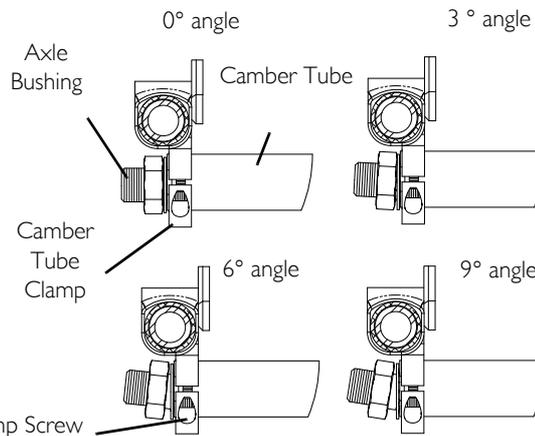
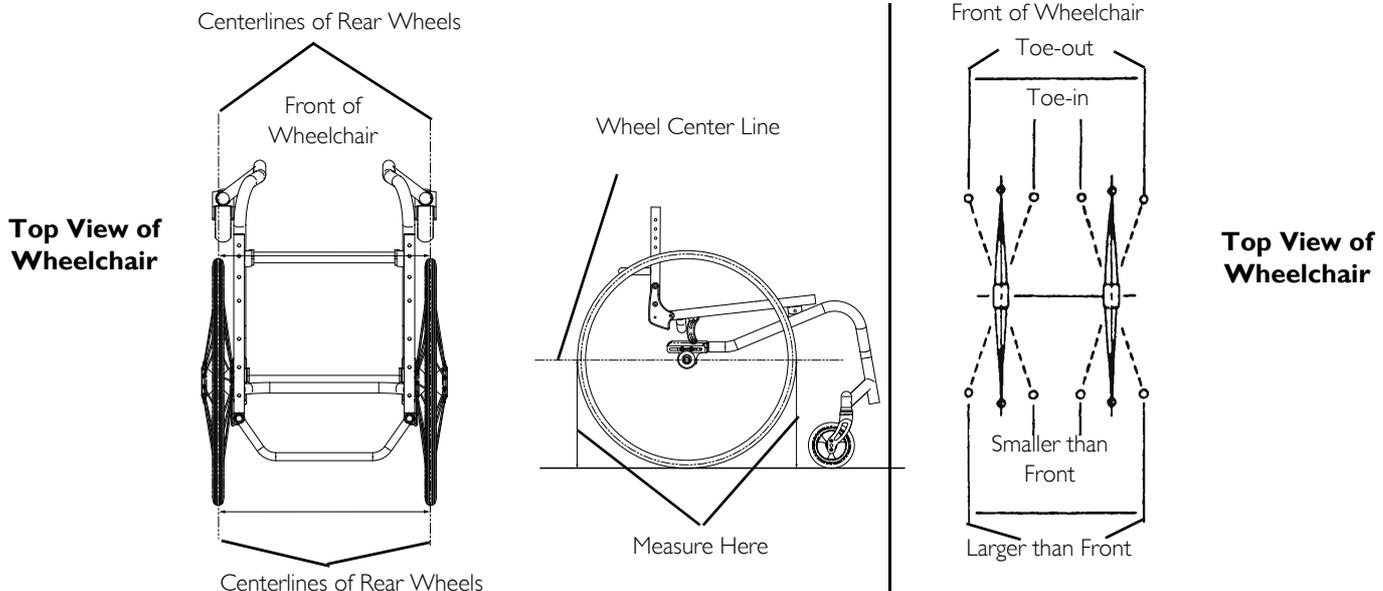

FIGURE 12 Adjusting Wheelbase Length, Adjusting Center of Gravity (COG)
FIGURE 14 Determining/Setting Toe In/Toe Out
For this procedure, refer to FIGURE 12 on page 74 and FIGURE 14.
2. Measure the distance between the centerlines at the rear and front of the rear wheels at approximately 12 inches (for 24-inch diameter wheels) from the ground/floor (FIGURE 14).
- If the back centerline measurement of the rear wheels is **SMALLER** than the front centerline measurement of the rear wheels, a **TOE-OUT** condition exists (FIGURE 14).
- If the back centerline measurement of the rear wheels is **LARGER** than the front centerline measurement of the rear wheels, a **TOE-IN** condition exists (FIGURE 14).
- A. Loosen both mounting socket head clamp screws (FIGURE 12).
- B. Rotate the camber tube until front and rear measurement are within $\frac{1}{8}$ -inch (FIGURE 12).
- C. Securely tighten both socket head clamp screws (FIGURE 12).